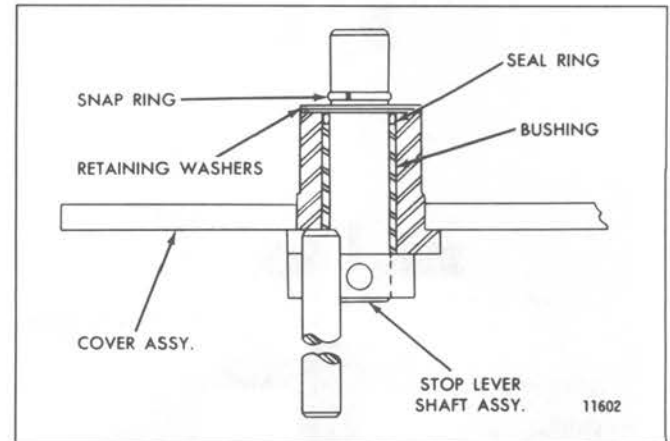

Fig. 4 – Cross Section of Governor Cover Assembly
1. Disassemble the governor cover as follows (Fig. 4):